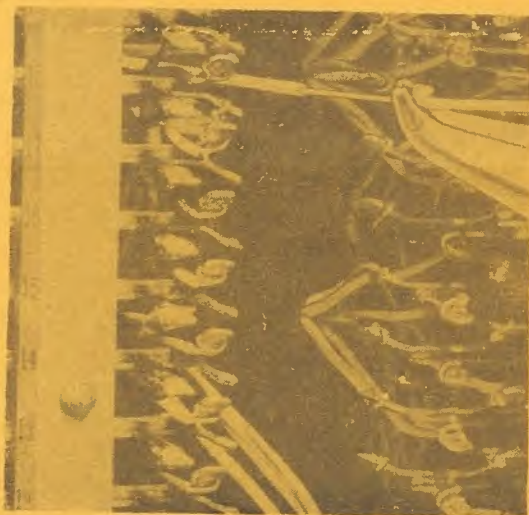

FIG. 9. STRIPPING INSULATION FROM WIRES
2. Apply light pressure to the pliers and pull the insulation down the wire $3/8'' - 1/2''$. (See Fig. 9.)